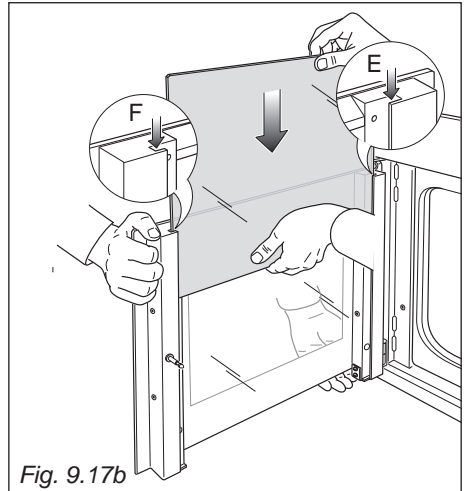
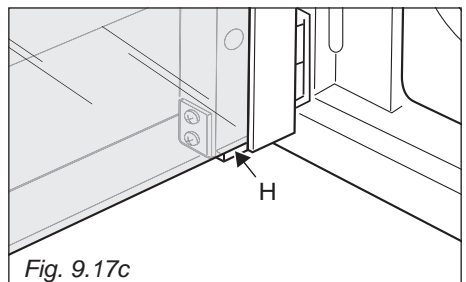

Fig. 9.17b
Fig. 9.17c
- Whilst one person holds the door still, a second person should insert the inner pane in the left “E” and right “F” side guides (fig. 9.17b) and gently let it slide up to the retainers “H” (fig. 9.17c). Forcible replacement of the door glass may lead to damage of the door hinges.